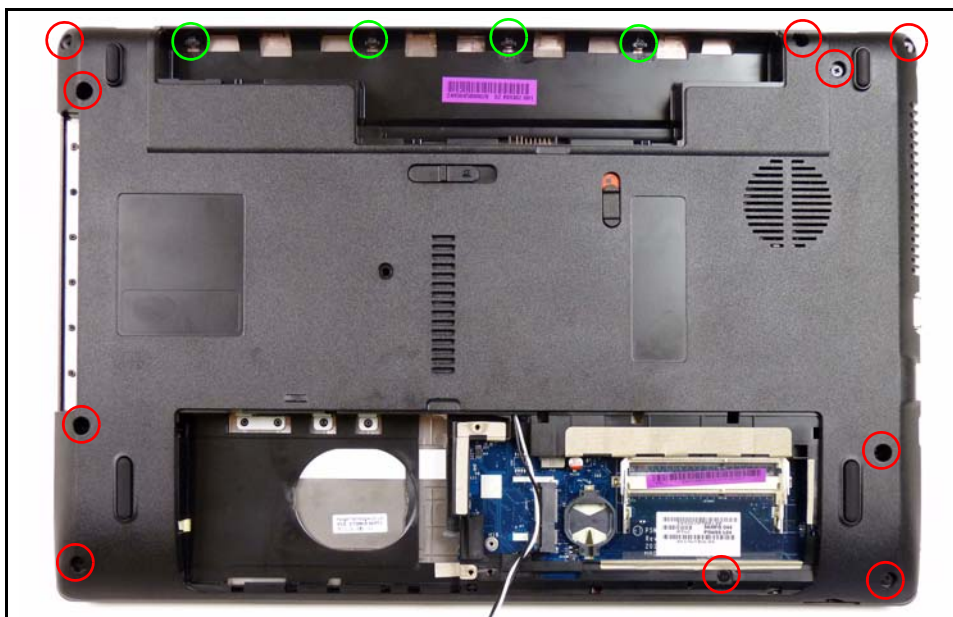

Figure 3-16. Lower Cover Screw Location
1. Remove fourteen (14) securing screws from the lower cover. (Figure 3-16)
4. Install and secure fourteen (14)screws to the lower cover. (Figure 3-16)